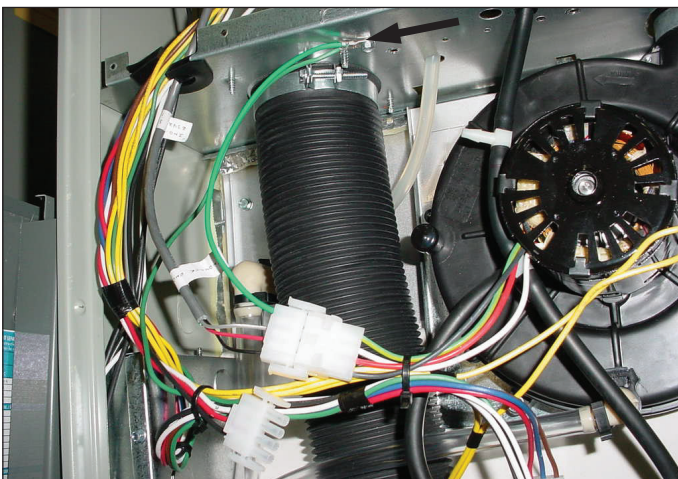

FIGURE 4 DOWNFLOW
6. Locate the end of the shielded cable harness labeled "INDUCER END" and connect the 4 pin connector to the inducer. Secure the Green ground lead found on the 4 pin connector to the blower deck. See Figure 4.